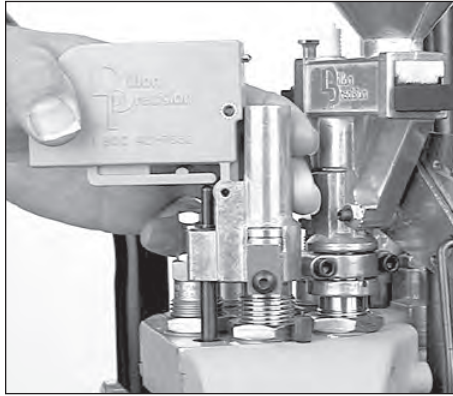

FIG 52
G. Station 3 – Installation of the Powdercheck System FIG 52: